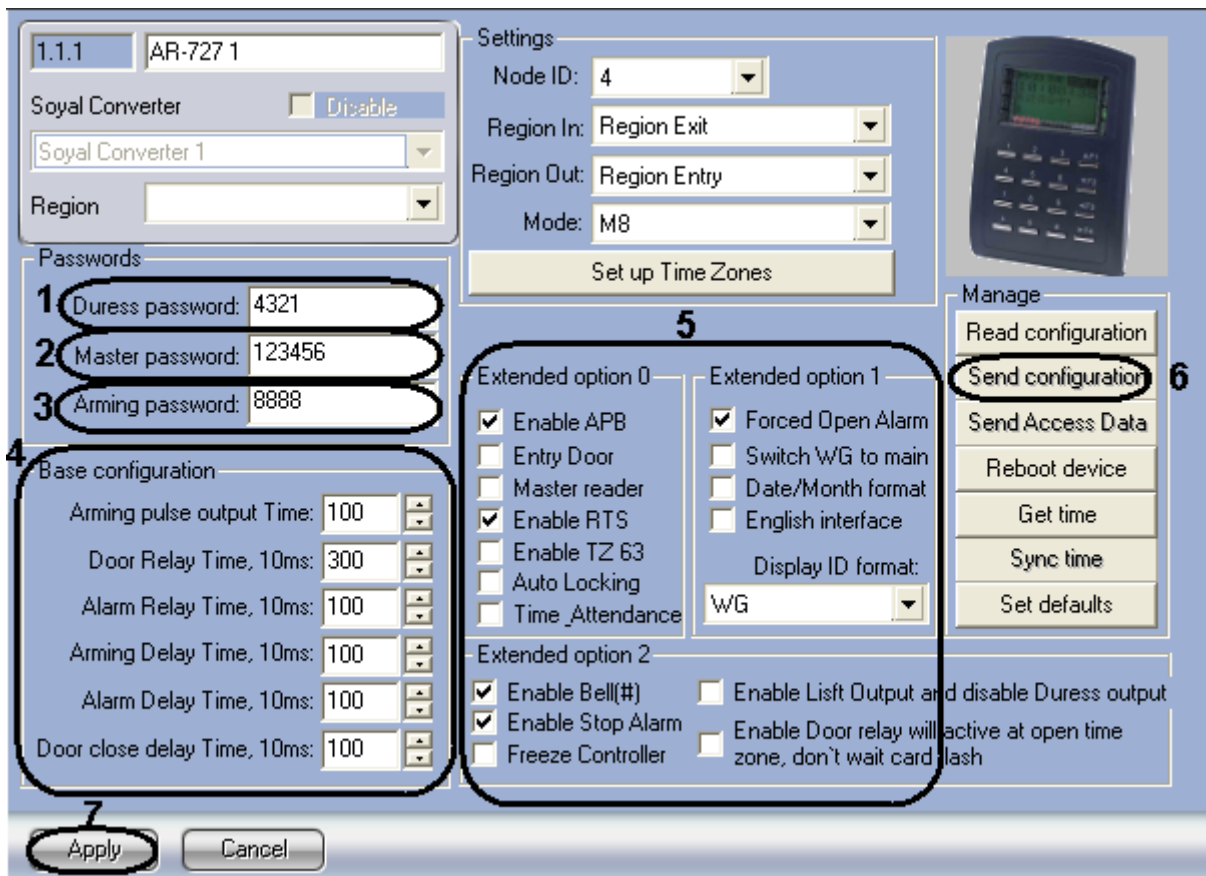

Figure 2.7—4 Manual configuration of AR-727 controller
1. Go to the **AR-727** object's settings panel (Figure 2.7—4).
2. In the **Duress password** field enter the code which is using when the computer opens door and at the same time sends a message for help (Figure 2.7—4, 1).
3. In the **Master password** field enter the code which allows programming device (Figure 2.7—4, 2).
4. In the **Base configuration** section enter the required value in corresponding fields (Figure 2.7—4, 4).
11. In the **Extended option** sections select the needed function settings checkboxes (Figure 2.7—4, 5):
12. Click **Send configuration** to write settings to the AR-727 controller (Figure 2.7—4, 6).
13. Click **Apply** to save changes (Figure 2.7—4, 7).